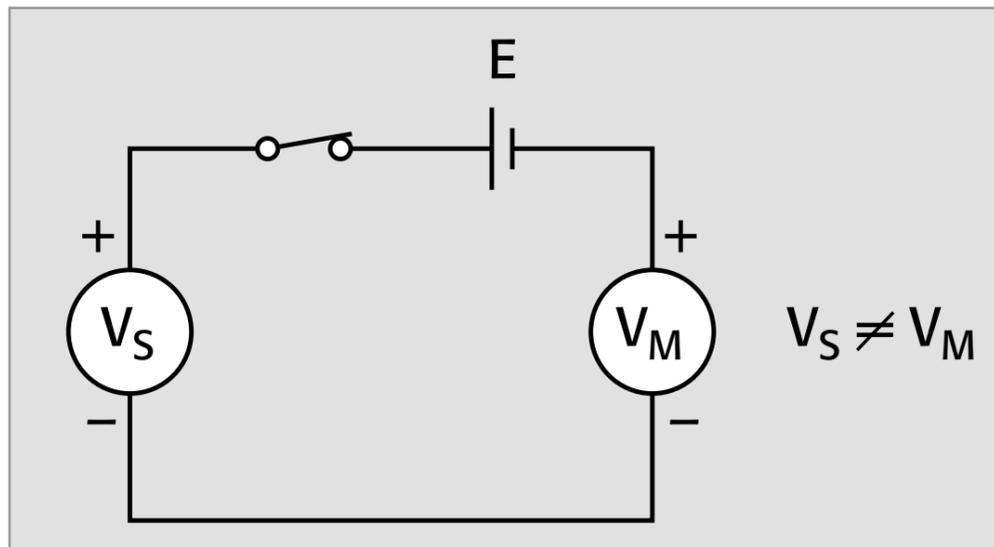
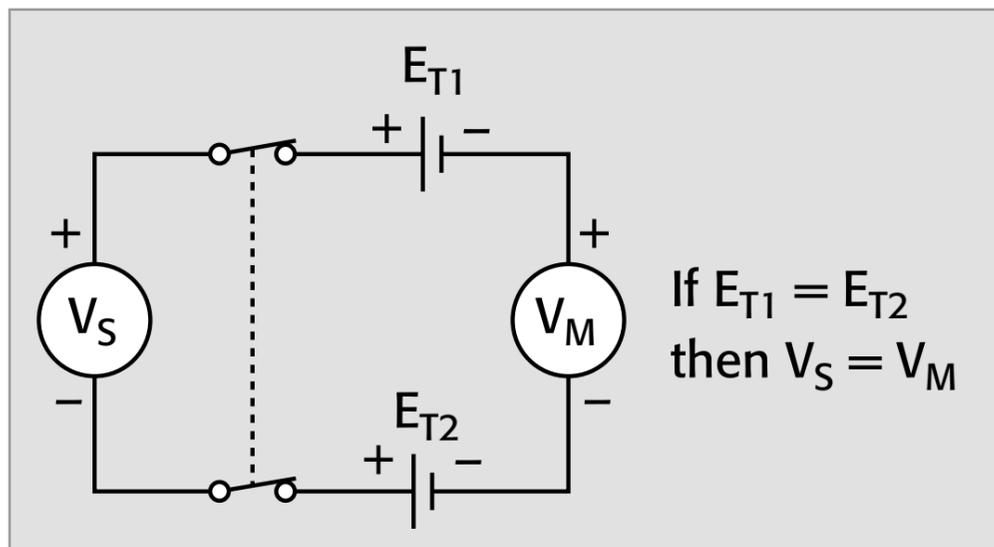

Figure 4a. Potential in loop is added to measurement
Figure 4b. Canceling of potentials in loop
As shown in **Figure 4a**, the offset voltage (E) of a single *pole* relay is added into the circuit. As a result, the measured voltage ( $V_M$ ) will be the sum of the source voltage ( $V_S$ ) and the offset voltage (E). To minimize this offset voltage, a low voltage switch card uses a two-pole relay, as shown in **Figure 4b**. Here, the offset voltage ( $E_{T1}$ ) in the circuit HI is largely canceled by the offset voltage ( $E_{T2}$ ) in circuit LO. The contact potential of some low voltage cards is specified with the card used as a two-pole switch to take advantage of this cancellation. It may be specified as “per contact pair.” However, total cancellation cannot be achieved because temperature differences will cause  $E_{T1}$  and  $E_{T2}$  to be slightly different.